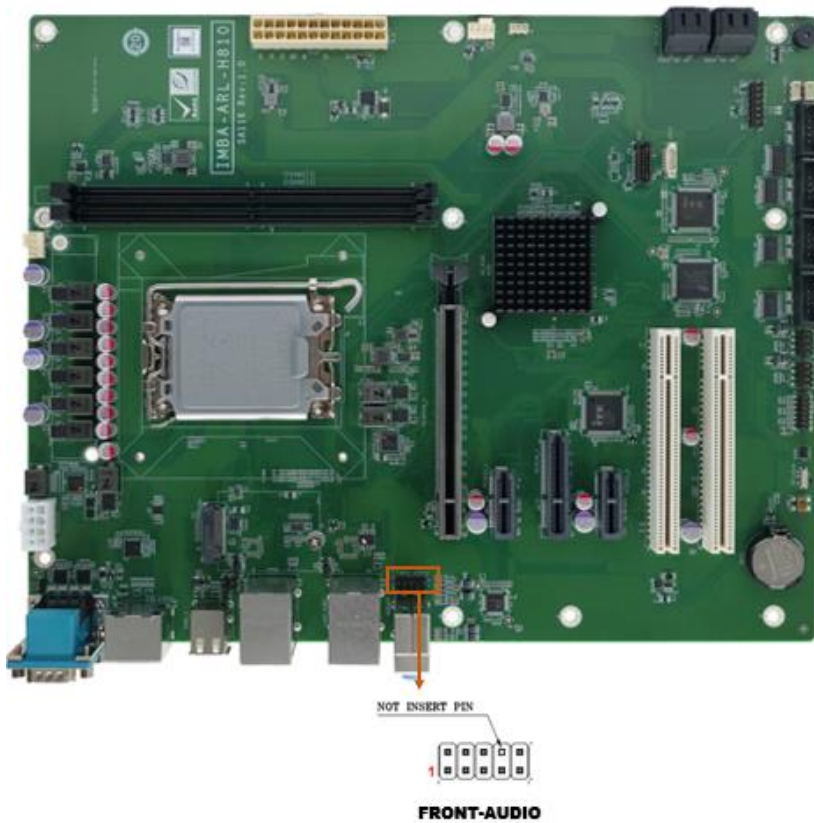

Figure 3-6: Audio Connector for IEI AC-KIT-888S Kit Location
The AT/ATX power mode selection is made through the AT/ATX power mode switch which is shown in Figure3-6.
- CN Location:** See Figure 3-6